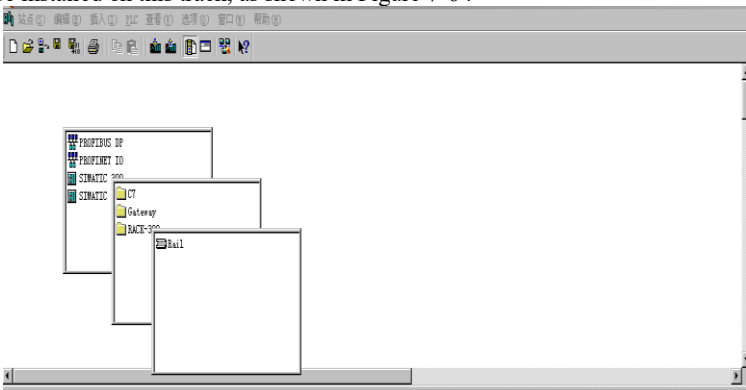

Figure 7-6
3. Right-click on a blank area on the configuration page, select [Insert Object], and select [SIMATIC]->[RACK-300]->[Rail] in the pop-up selection box to insert a track. The device will be installed on this track, as shown in Figure 7-6 .